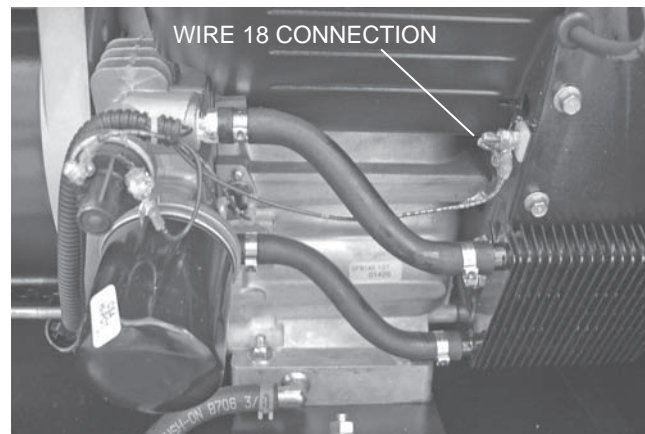

Figure 24. Wire 18 Connection
1. On V-twin generators, remove Wire 18 from the stud located above the oil cooler. On single cylinder generators, disconnect Wire 18 at the bullet connector. See Figure 24.
- a. On V-twin generators, remove Wire 18 from the stud located above the oil cooler. See Figure 24.